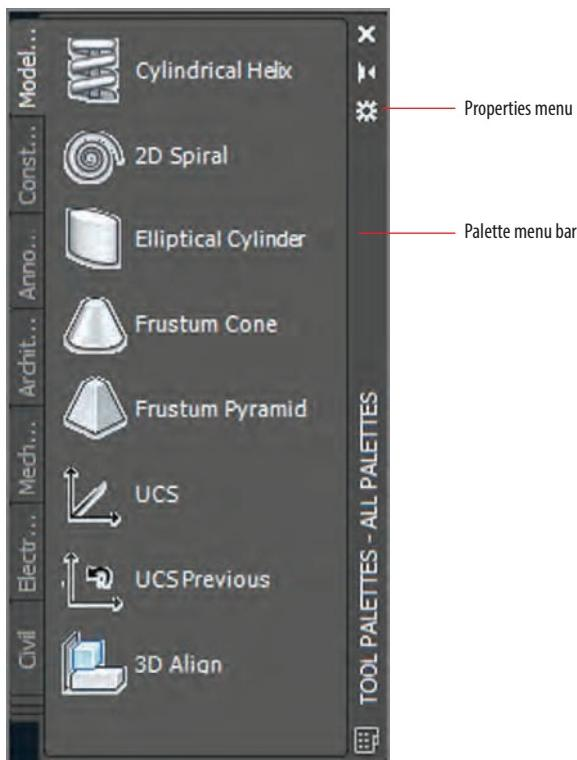

FIGURE 9.21 Tool palettes
2. Right-click the Palette menu bar and select New Palette. Type **Furniture** and press Enter (see Figure 9.21).